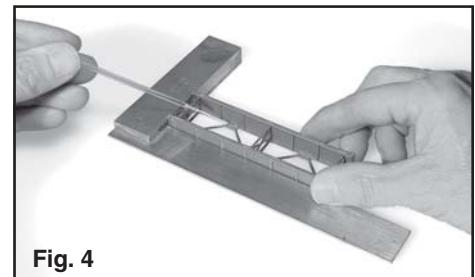

Fig. 4
**c.** It is important that the two girders are assembled square and as with a prototype bridge, the lateral bracing holds them square. Remove the rubber bands and place the girder assembly in a square as shown in fig. 4. Cement the lateral bracing while holding the girders against the square.